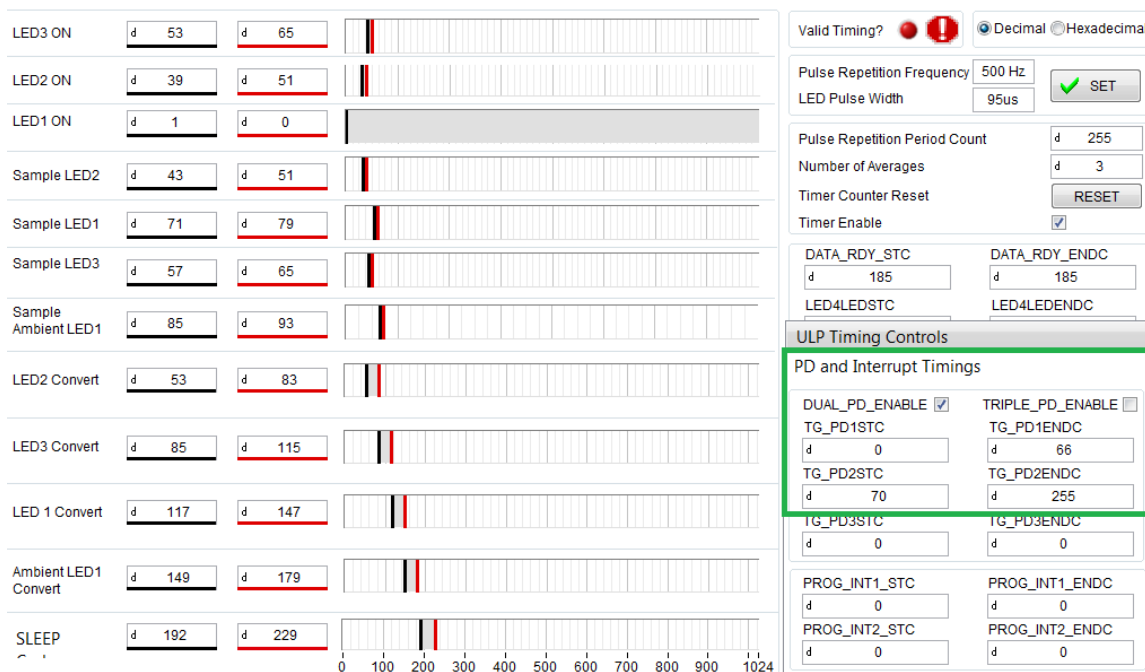
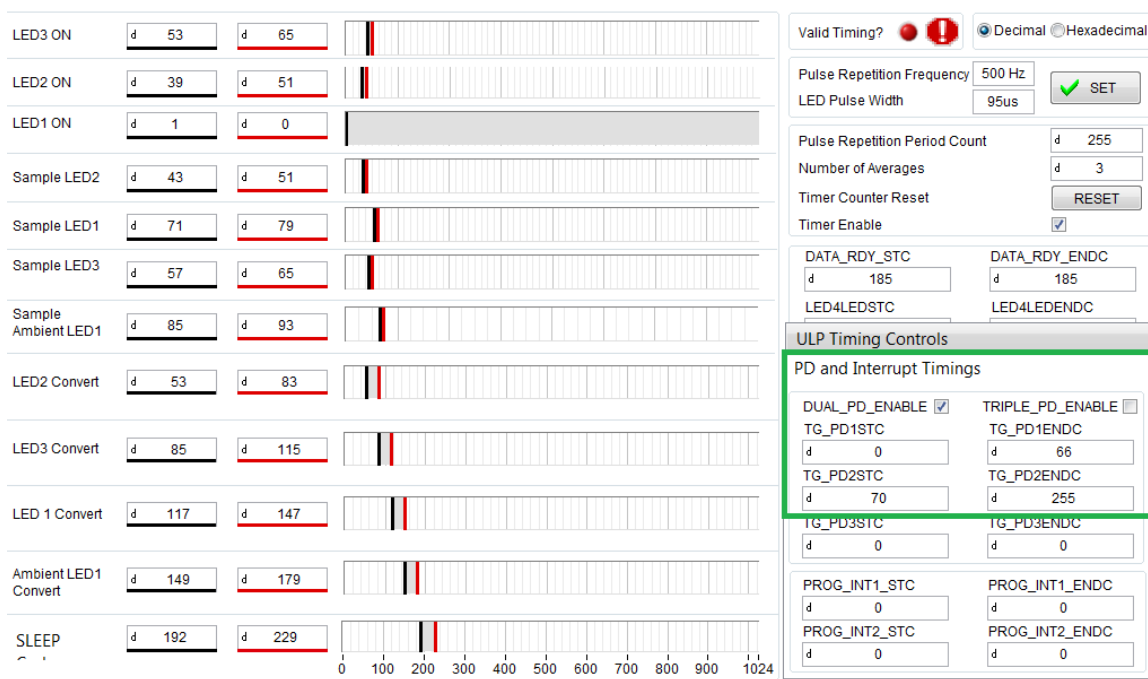

图 31. Timing and Settings for SFH 7072 PPG Sensor
图 32. Timing and Settings for OCS112 PPG Sensor
- LED4 (IR) of the SFH7072 = connected to TX3 of the AFE4900 device
- The Dual_PD_Enable bit is set in the 0x4E register in the AFE4900 device (see 图 31).
Because this sensor has only one PD, the Dual_PD_Enable bit is not set in the 0x4E register in the AFE4900 device (see 图 32). PD1 of the AFE4900 device is always connected to PD of the sensor.
注: 图 31 和 图 32 是 AFE4900EVM GUI (可在 [AFE4900EVM](http://www.ti.com/sc/techlit/AFE4900EVM)) 的截图。